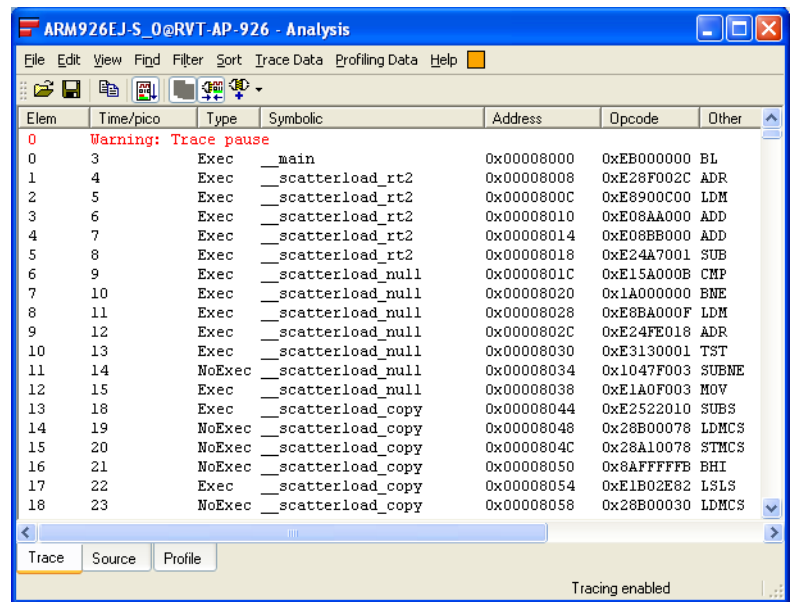

Figure 10-5 Captured trace shown in the Analysis window
3. Click **Run** on the Debug toolbar to start execution. The image runs until the breakpoint is activated. The captured trace is displayed in the **Trace** tab of the Analysis window. Figure 10-5 on page 10-8 shows an example:
- Tracing starts from the application entry point, 0x8000. Figure 10-5 shows an example.